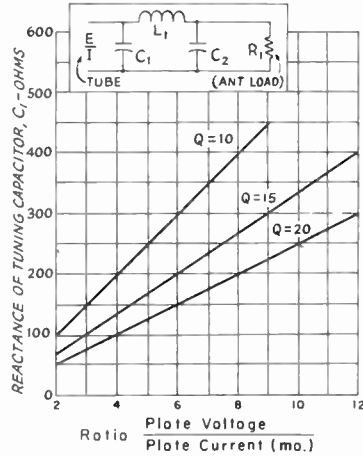

Fig. 6-13—Reactance of input capacitor, C_1 , as a function the ratio of plate voltage to plate current.
- C_1 —Input or plate tuning capacitor. See text or Fig. 6-13 for reactance. Voltage rating equal to d.c. plate voltage; twice this for plate modulation.
Values of reactance for C_1 , L_1 and C_2 may be taken directly from the charts of Figs. 6-13, 6-14 and 6-15 if the output load resistance is the usual 52 or 72 ohms. It should be borne in mind that these values apply only where the output load is resistive, i.e., where the antenna and line have been matched.